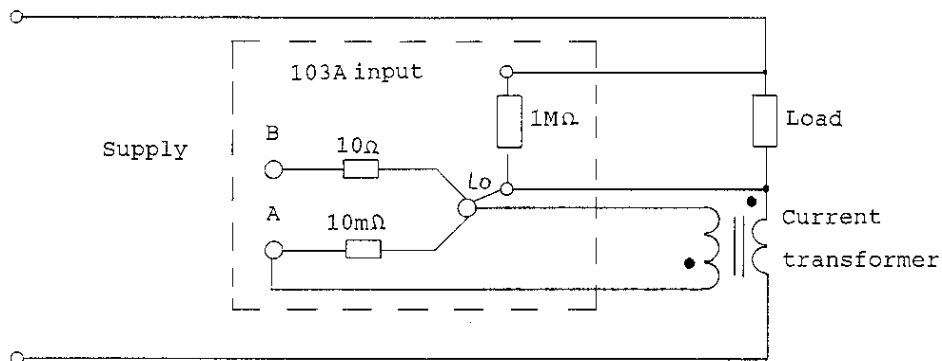

Figure 5.2. Circuit Connection Using Current Transformer
1. The I_o terminals must be connected together (max. 8V difference), and 2. the displayed power value must be positive. Figure 5.2. shows the circuit connection using a current transformer.